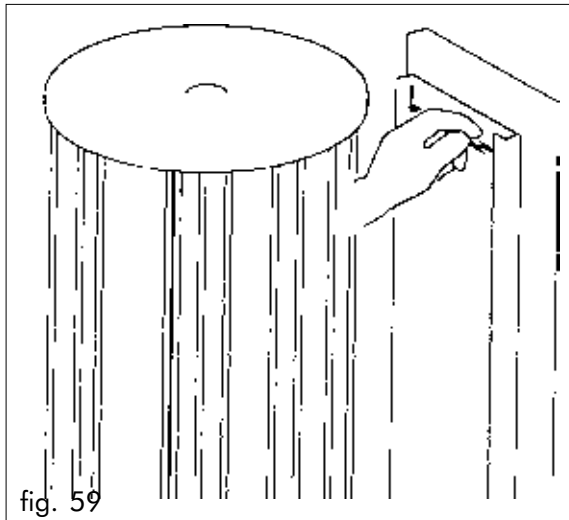

fig. 59
- Once the loading is completed replace the counter-weight. (fig.59).